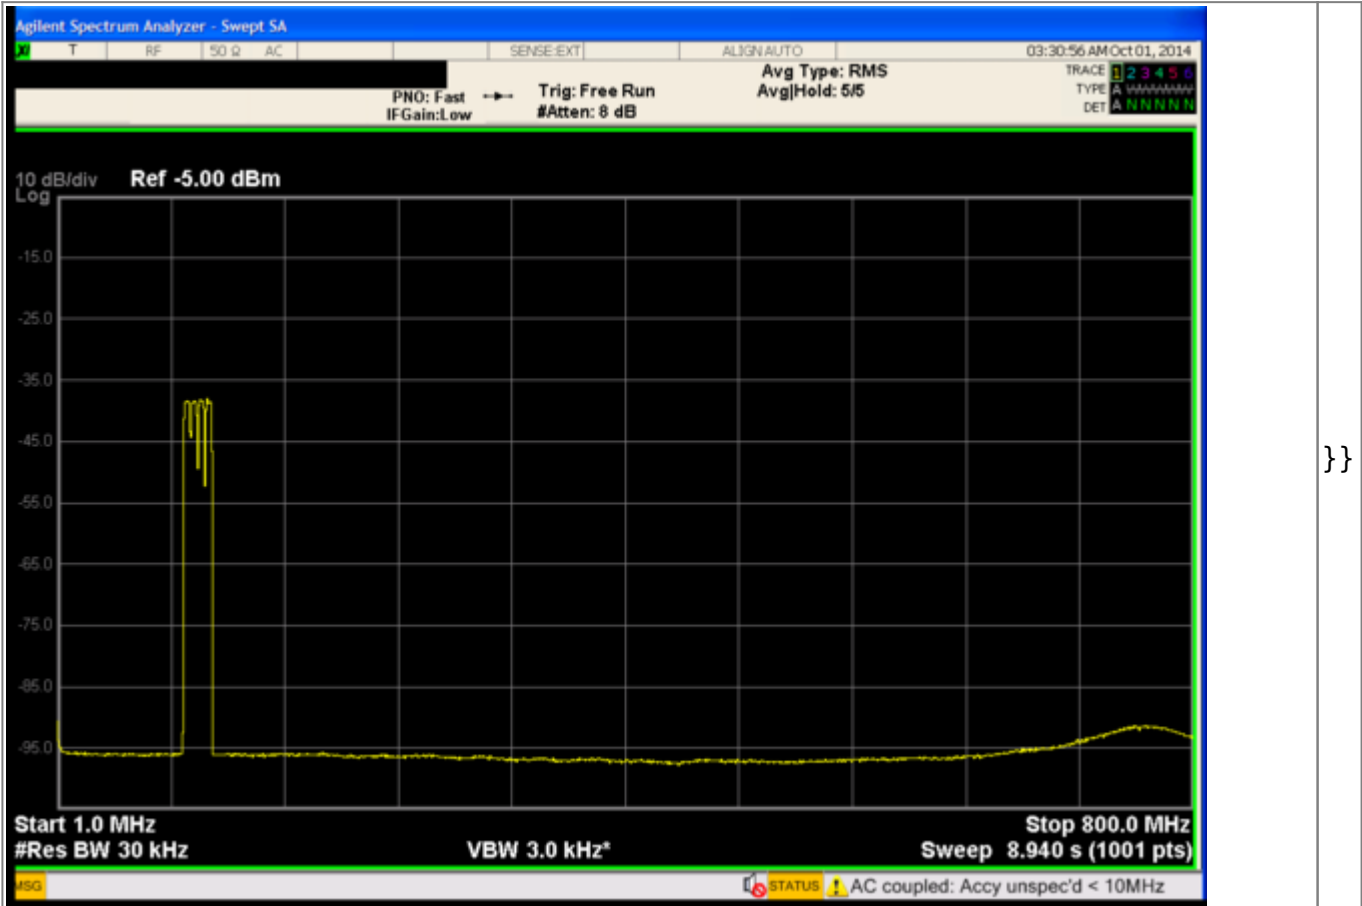

Figure 6. AD9136/AD9135-EBZ Eval Board DAC output Spectrum
3. The output spectrum of the DAC should look like Figure 6 below.